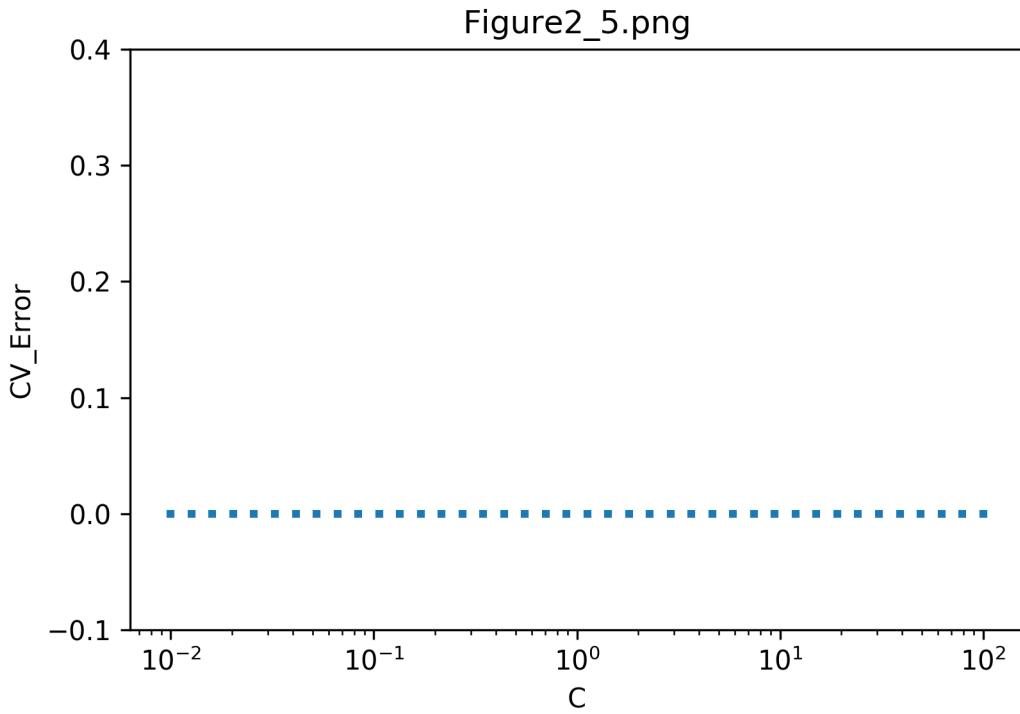

Figure 2.5. Cross validation error for different c values in SVM on 256D data (linear, soft margin SVM; c from 0.01 to 100, log scale)
b) Repeat the above experiment for the 256D degree data. Label this figure 2.5.
See **Figure 2.5**. Cross validation errors are all 0 across all C 's.